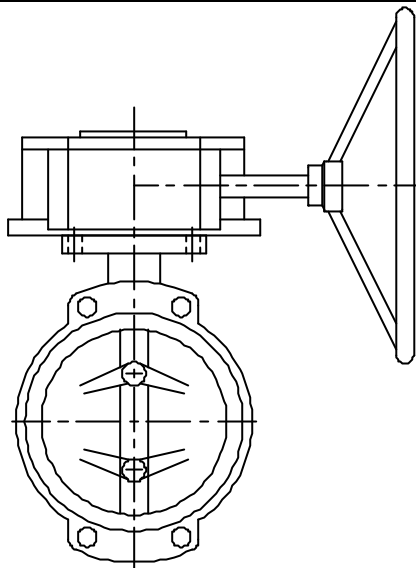

figure 1 : Gearbox perpendicular to the valve
8. The gearbox is mounted perpendicular to the valve (see figure 1).